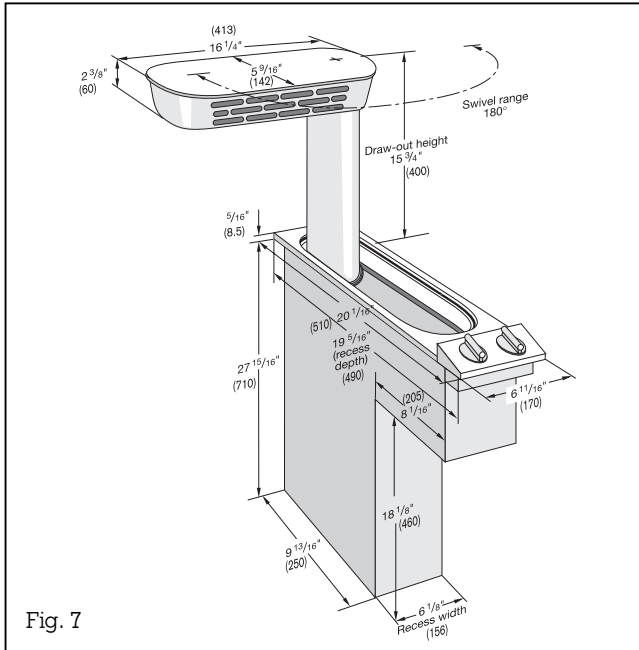

Fig. 7
- **Produce** the recess for the appliance. Proceed as indicated on the installation sketch and the dimension table (Fig. 7). When installing several Vario appliances at the same time, please pay attention to the dimensions specified in the type list. **Important:** The angle between the cut surface and the worktop must amount to 90°.